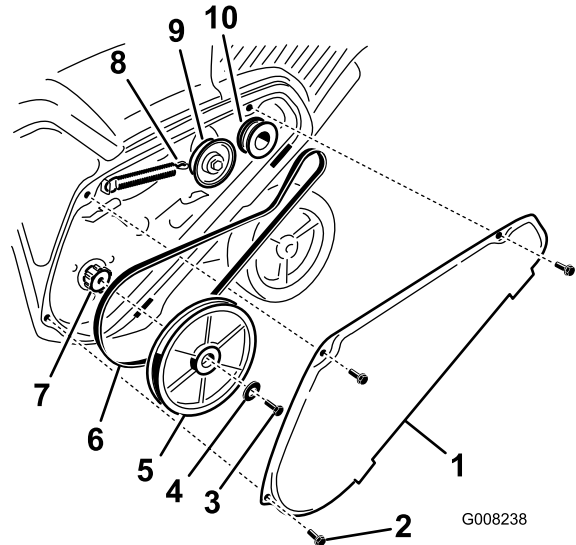

Figure 24
2. Unhook the brake spring from the idler arm to release the belt tension (Figure 24).
3. Remove the screw and curved washer that holds the rotor pulley (Figure 24).
4. Remove the rotor pulley and the drive belt (Figure 24).
Note: Route the new drive belt first around the engine pulley, then the idler pulley, and finally around the loose rotor pulley positioned just above the rotor shaft (Figure 24).
6. Install the rotor pulley onto the rotor shaft (Figure 24).
7. Install the curved washer and the rotor pulley bolt and tighten them securely (Figure 24).